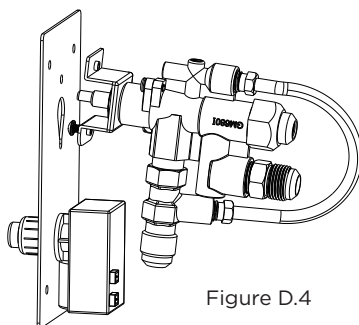

Figure D.4
8. Line up valve screw into tear drop hole, and lower into place. Tighten screw, then add second screw into top hole. Secure knob to valve stem. **Sparker must be installed before valve.** See Figure D.4